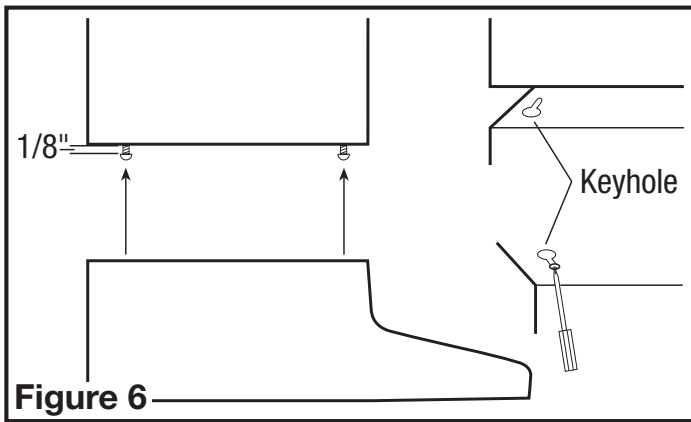

Figure 6
- Install the 4 mounting screw at the previously marked locations. Leave approximately 1/8" clearance. Slide the hood in place through the keyhole slots and align the front of the hood so that it is flush with the front of the cabinets. Tighten all screws securely (**Figure 6**).